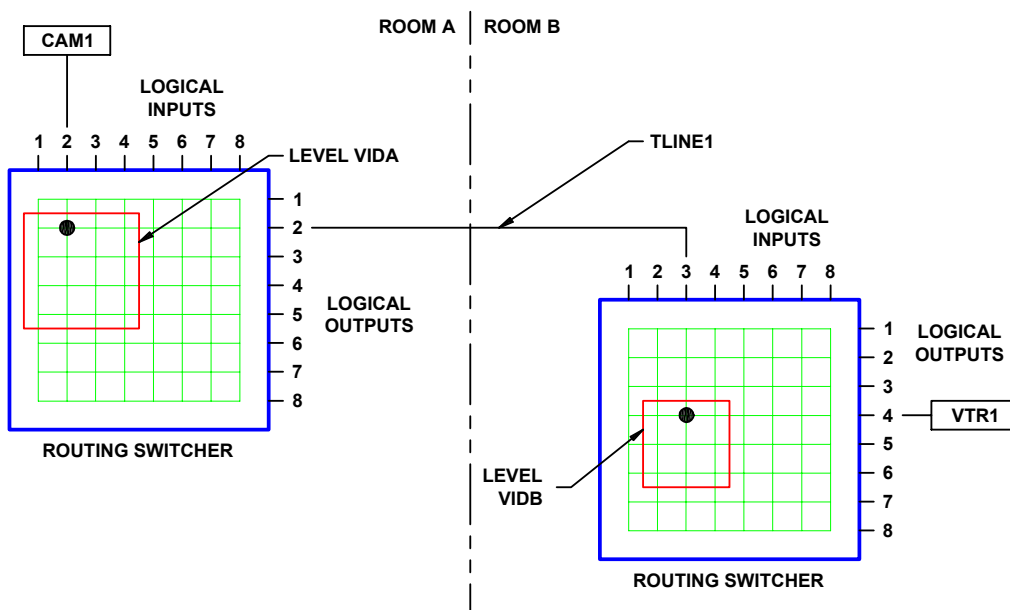

Figure 93. Tieline
**Example 2 - Switch a signal from camera CAM1 (connected to a routing switcher in Room A) to video tape recorder VTR1 (connected to a routing switcher in Room B):** (Figure 93)